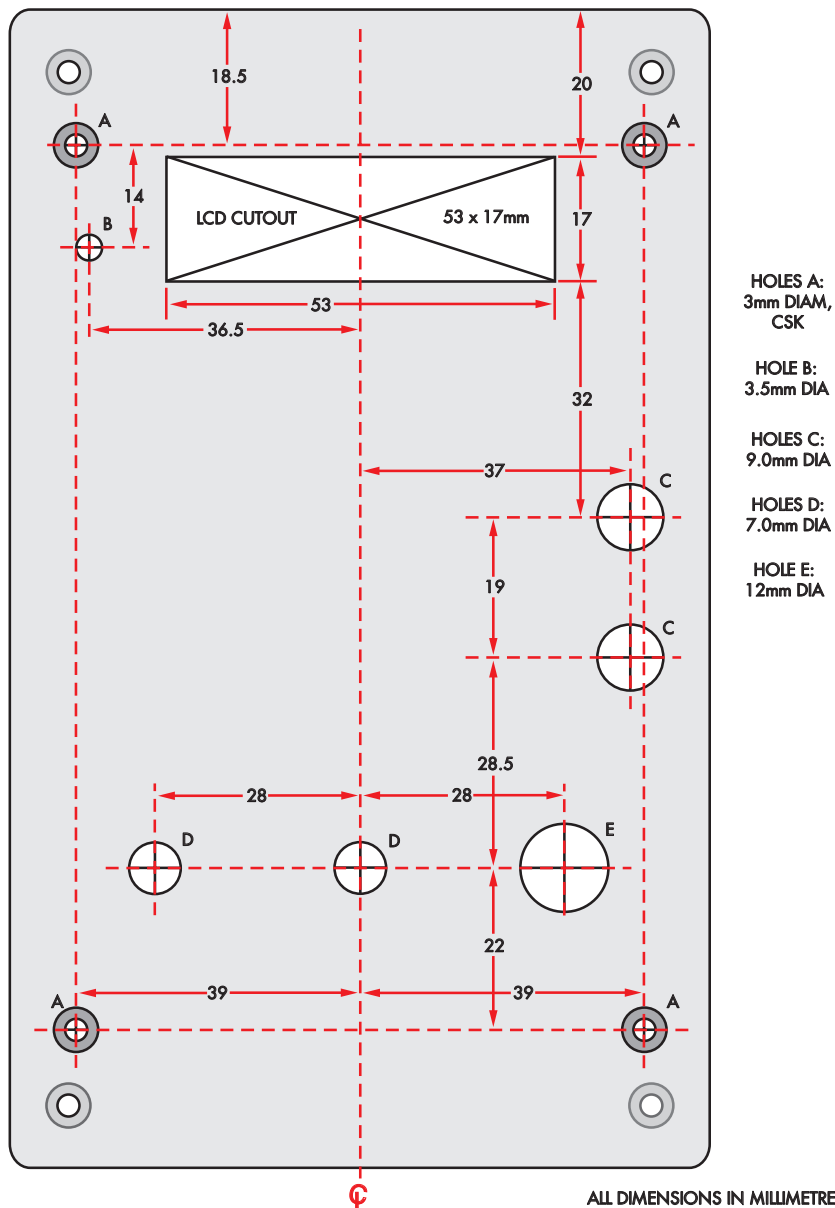

Fig.6: drilling and cutout detail for the lid of the UB1-size plastic box, from which hangs the PC board containing everything but the battery holder.
The location and dimensions of all these holes are shown in Fig.6, which can also be used (or a photocopy of it) as a drilling template. The 12mm hole (E) for S2 and the 9mm holes (C) for the test terminals are easily made by drilling them first with a 7mm twist drill, and then enlarging them to size carefully using a tapered reamer.